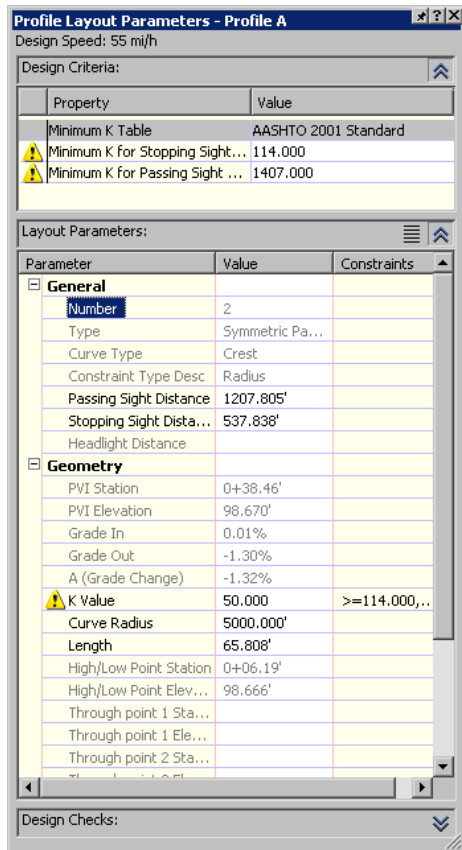

Figure 6-53 The **Profile Layout Parameters** dialog box
4. Now, invoke the **Select Entity** tool and select the curve on which the violation error is displayed; the curve parameters and their values will be displayed in the **Profile Layout Parameters** dialog box, as shown in Figure 6-53.